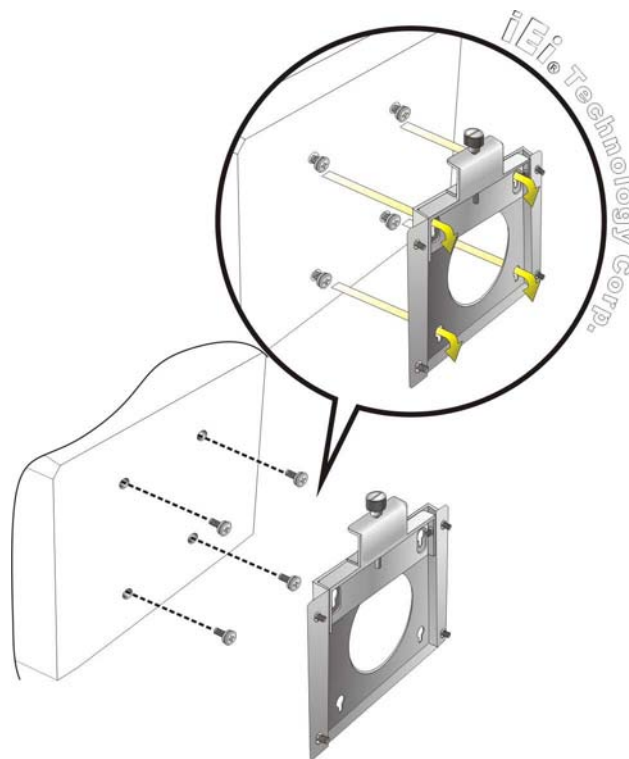

Figure 3-12: Chassis Support Screws
- Step 6:** Insert the four monitor mounting screws provided in the wall mounting kit into the four screw holes on the rear panel of the flat panel PC and tighten until the screw shank is secured against the rear panel (Figure 3-12).
- Step 8:** Carefully insert the screws through the holes and gently pull the monitor downwards until the monitor rests securely in the slotted holes (Figure 3-12). Ensure that all four of the mounting screws fit snugly into their respective slotted holes.